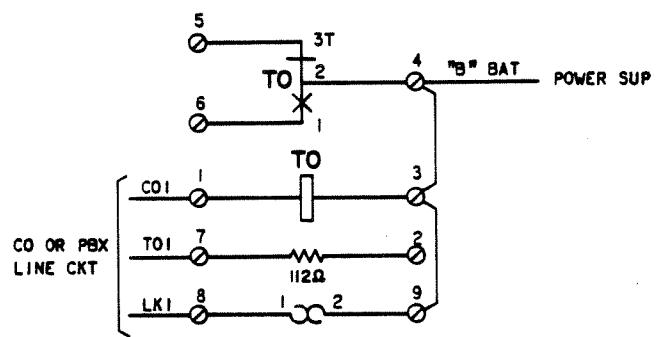

Fig. 18—Functional Schematic of 30A KTU (Time-Out Circuit)
2.29 The 30A KTU (Fig. 18) provides system time-out on abandoned calls. The KTU will time-out approximately 20 seconds after the call is abandoned.